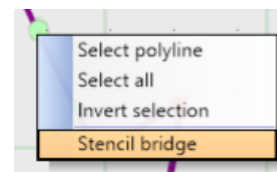
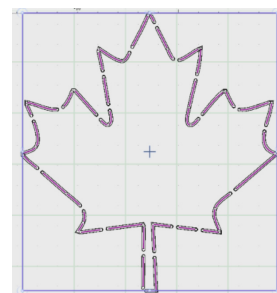

Fig. 8
Fig. 9
9. Select **Stencil Bridge** from the pop-up menu (See Fig. 8) and a gap is created in the linework (See Fig. 9).